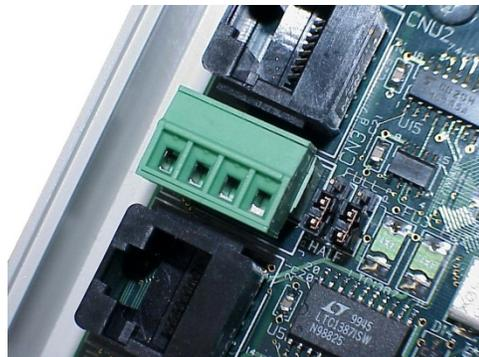

Figure 1: RS-485 Terminal Block (CN3) and Duplex Selection Jumpers
- If a 2-wire RS-485 drive network is desired, then the drive(s) must be properly configured for 2-wire RS-485. Note that this may involve hardware configuration in addition to parameter changes. For example, G7/Q7/H7-series drives have duplex selection jumpers located on the drive's control board near the communication ports. For these drives, both jumpers must be placed in the "HALF" position for successful 2-wire operation. Refer to Figure 1 for an example detailed view of correctly-positioned duplex selection jumpers.